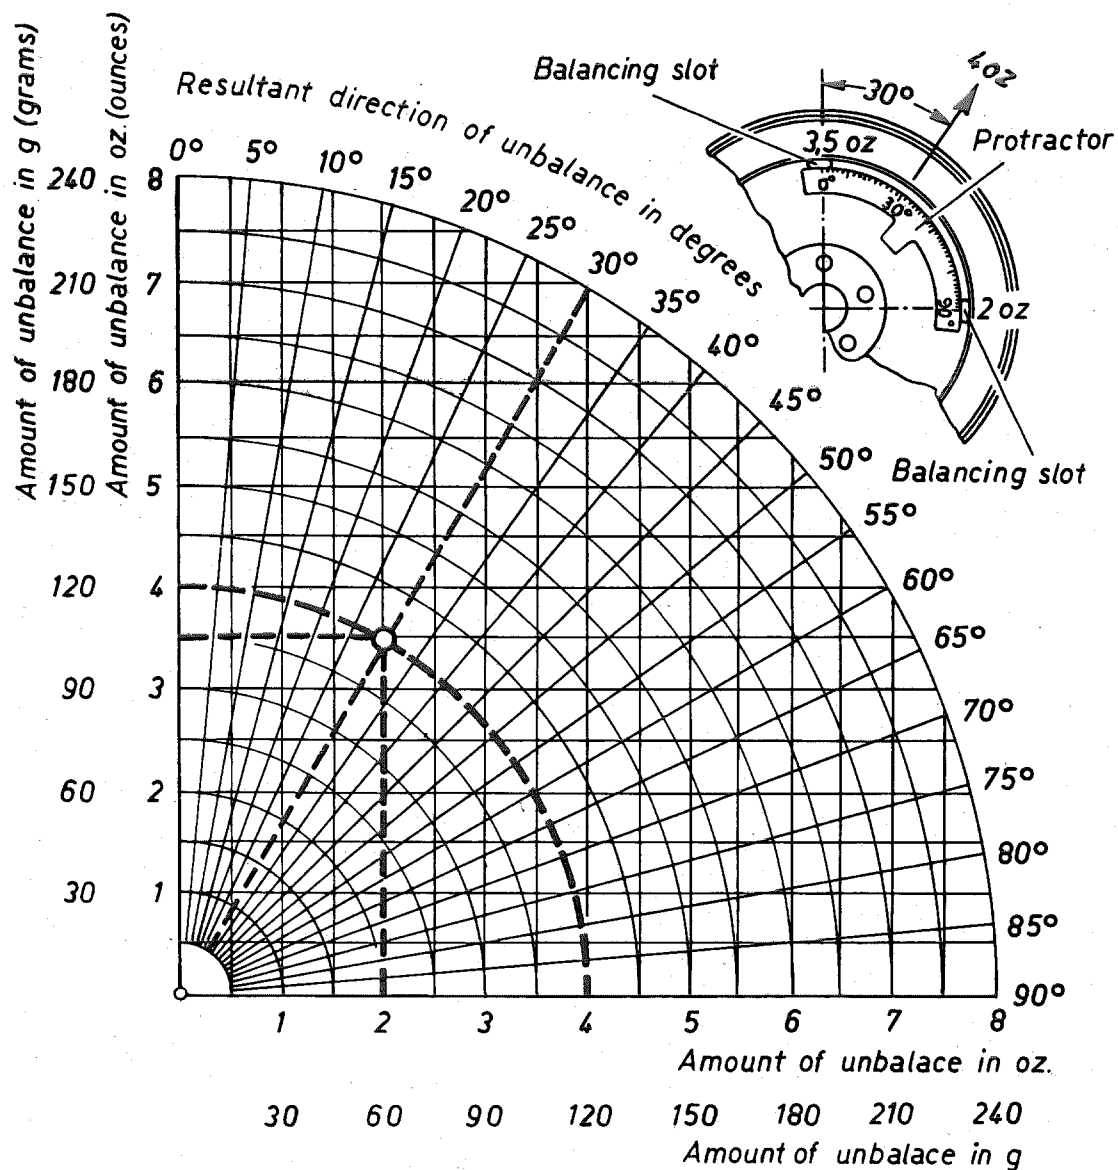

Fig. 40 — 2/1
If no fully-automatic machine is available, it is necessary first of all to determine the angle and magnitude of unbalance by some other method. To resolve the unbalance a so-called polar diagram is employed (Fig. 40 — 2/1).
1. The angle of unbalance must be marked on the tire or the rim and measured in degrees with a protractor (see Fig. 40 — 2/1). Place the protractor in position so that the 0 mark is lined up with one balancing slot and the 90 mark is lined up with the other.